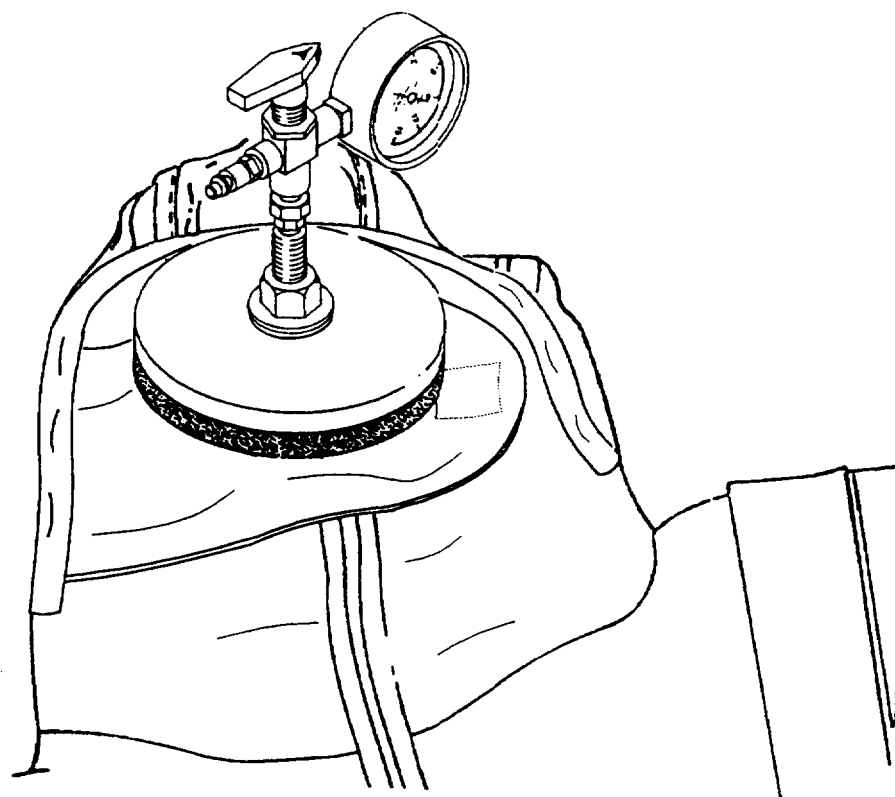

Figure 5-29. Face Plate Assembly (Top and Bottom Plates Fastened Together)
4. Tuck slide fastener tab inside Lower Plate Rubber Channel. Close the face flap over the facial area. Use extreme care to avoid folds or creases in the sealing area. Lower the upper plate assembly of the test fixture and tighten nut to compress the facial opening and slide fastener between the top and bottom plate assemblies. See figure 5-29.
5. Connect a dry, filtered, clean low pressure air source to the test fixture at the male quick disconnect fitting. Rotate the black pointer on the 3-way valve toward the air inlet and inflate the coverall for no more than 20 seconds. Rotate the black pointer in the direction of the gage to check the pressure in the coverall. (See figure 5-29.) If the pressure is below six inches of water, turn pointer back toward air inlet letting in a small amount of air. If pressure is above six inches of water, turn the pointer to the bleed hole in the 3-way valve to bleed excessive pressure down to six inches of water. Check gage reading after 15 seconds. Leave pointer facing gage and observe gage for pressure drop. If gage pressure has dropped, tighten down nut on top plate.